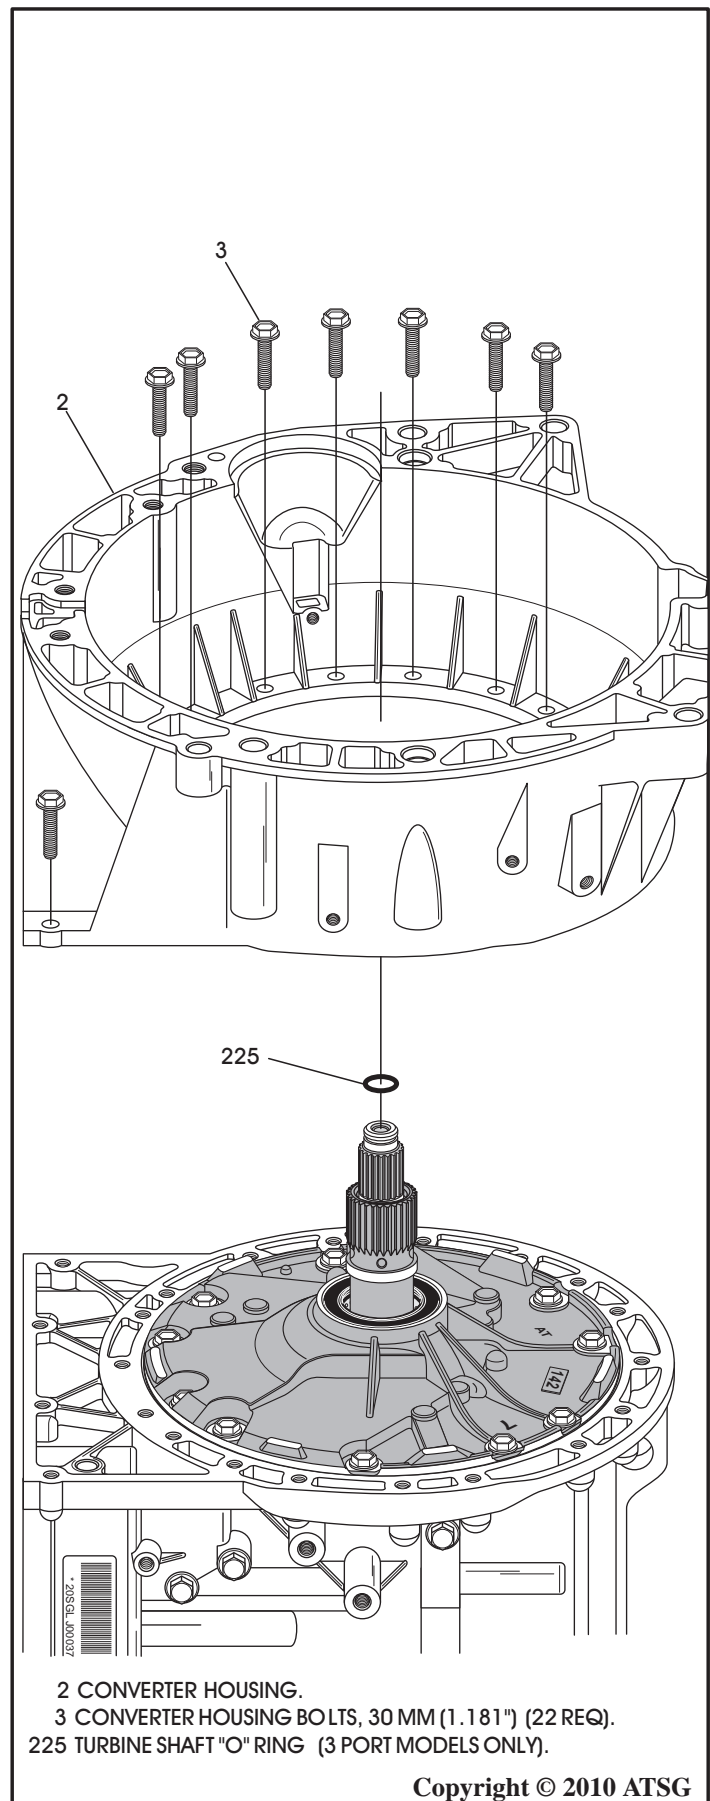

Figure 244
83. Install turbine shaft "O" ring seal into groove in turbine shaft, as shown in Figure 244.
84. Install the torque converter housing, as shown in Figure 244.
85. Install the 22 converter housing retaining bolts, as shown in Figure 244.